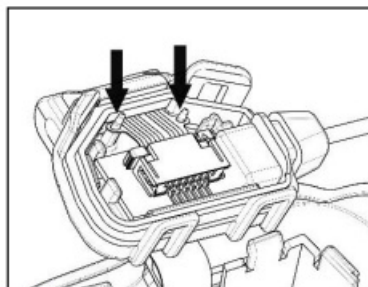

Fig. 8
8. Insert the side rings of the keypad flex in the two fixing pins (Fig. 8).